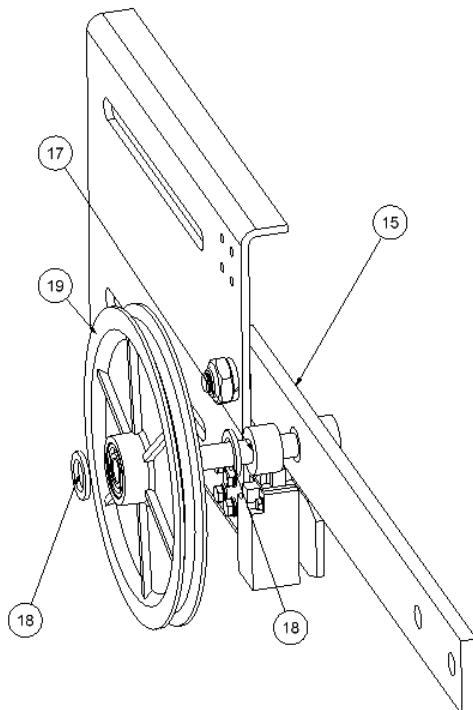

Figure 3
Insert a nylon ring (18). *Figure 3*